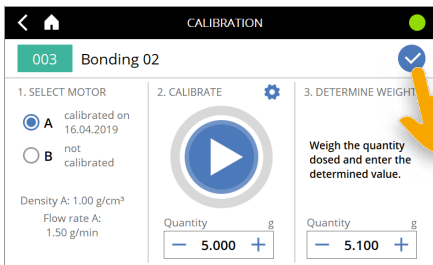

Fig. 46
- ▶ Finally, save the values (Fig. 46).